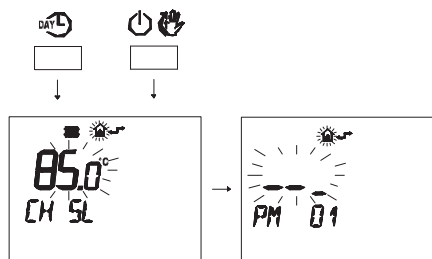

Fig. 8.19
- Press buttons **PAY** and **ON** at the same time to enter transparent programming (Fig. 8.19).